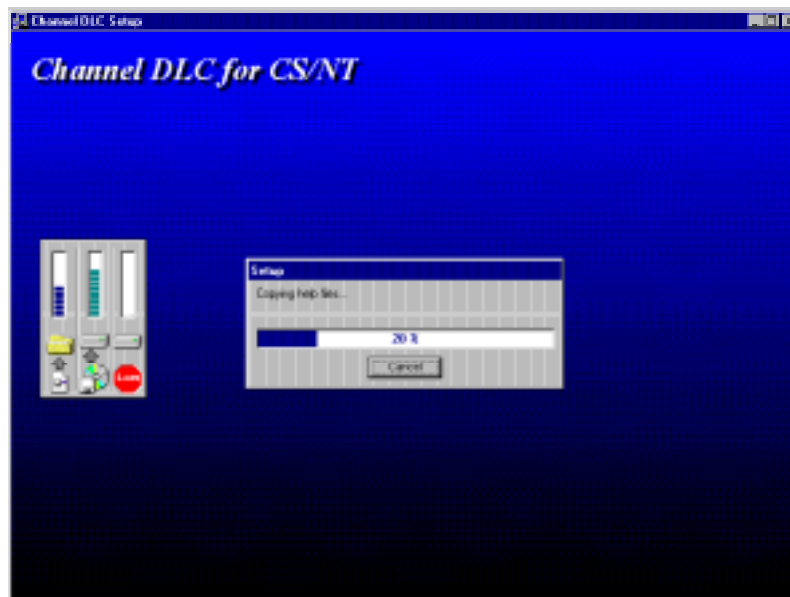

Figure 7-5. Installation Progress
5. Progress bars will display during installation (Figure 7-5).